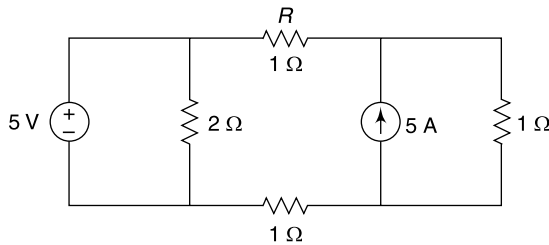

Fig. 4.188
27. Find the current through the resistance R in Fig. 4.188 by nodal voltage analysis. [Ans: 0 A]